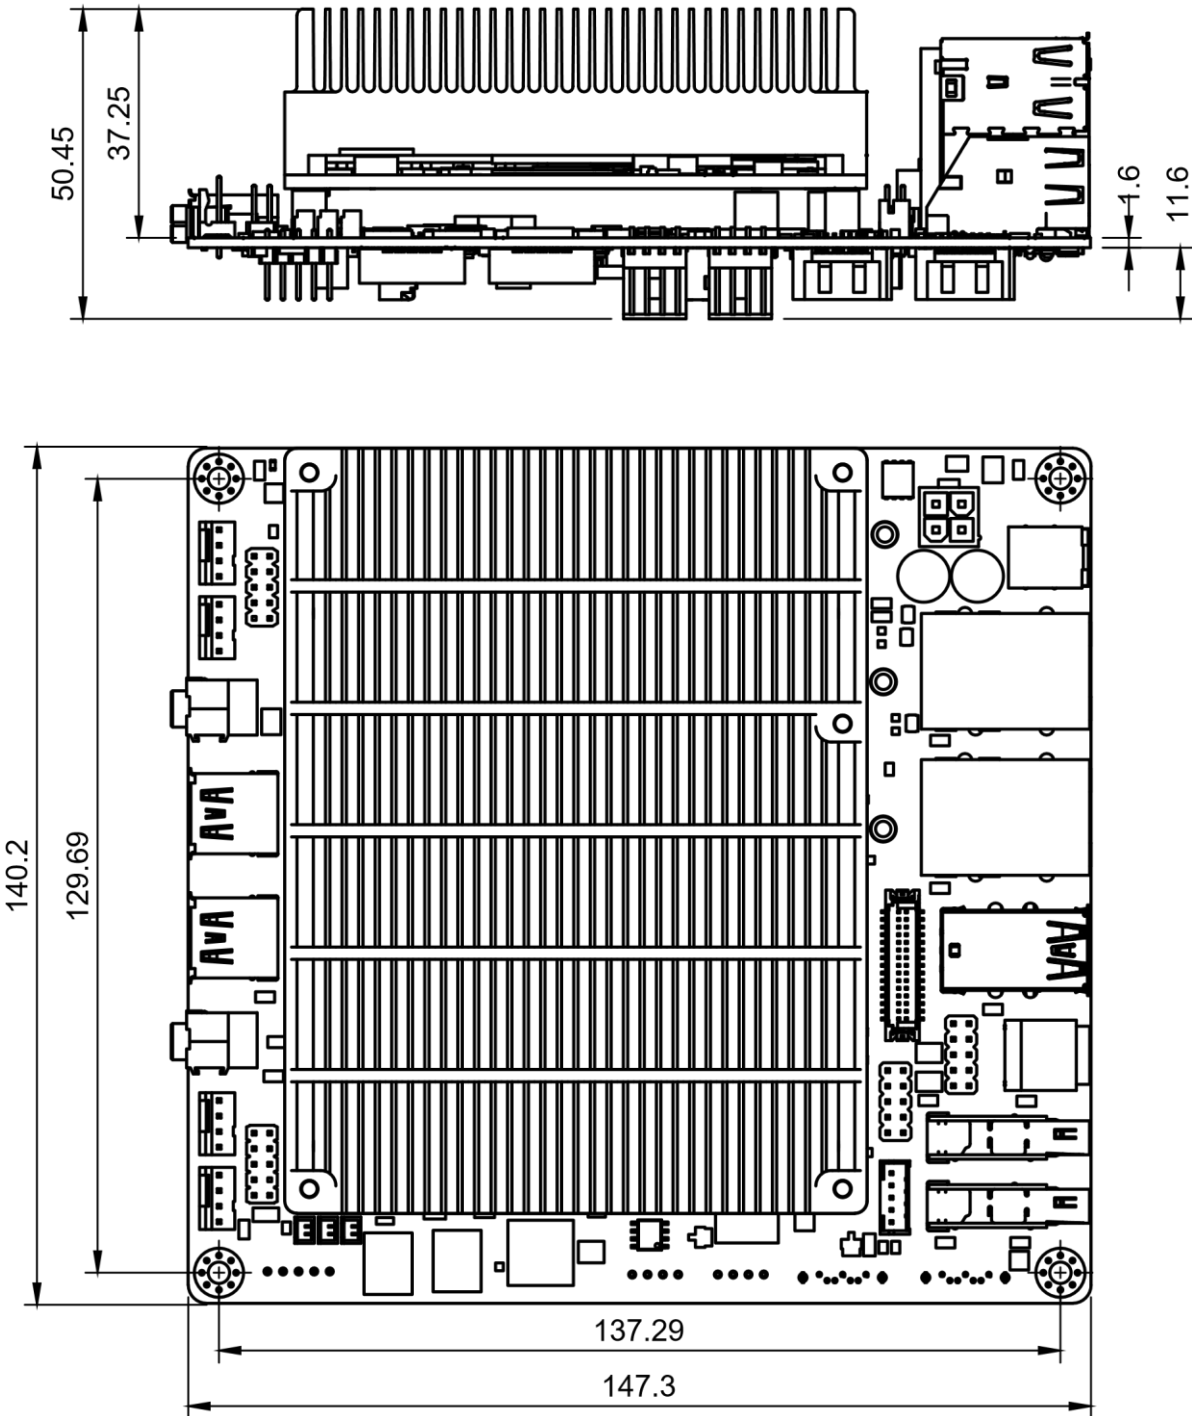

Figure 17. Platform dimensions
- Figure 17. Platform dimensions